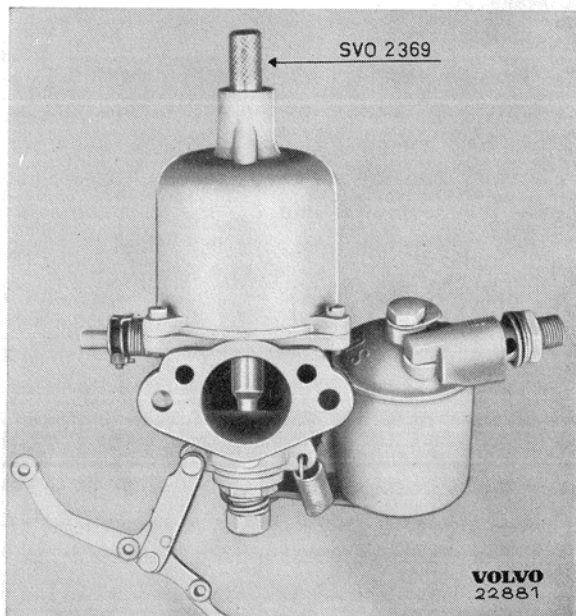

Fig. 18. Centralizing the jet.
3. Slide the centering tool SVO 2369 into the carburetor as shown in Fig. 18. The narrow end of the tool should then press down in both jet sleeves and press out the jet.